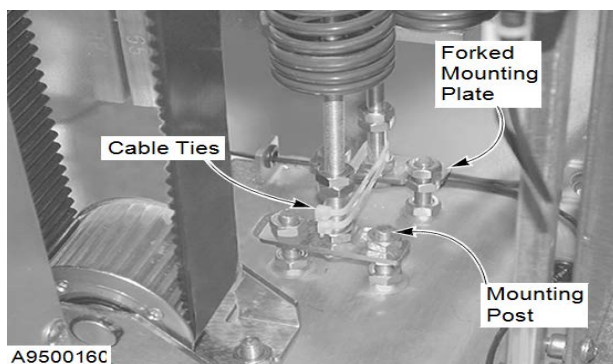

Figure 61
8. Attach the spring pack to the mounting posts on the base plate. To retain the preload setting, tighten only the lower nuts against the bottom of the mounting plate — do not adjust the upper pair of nuts. (See Figure 61.)